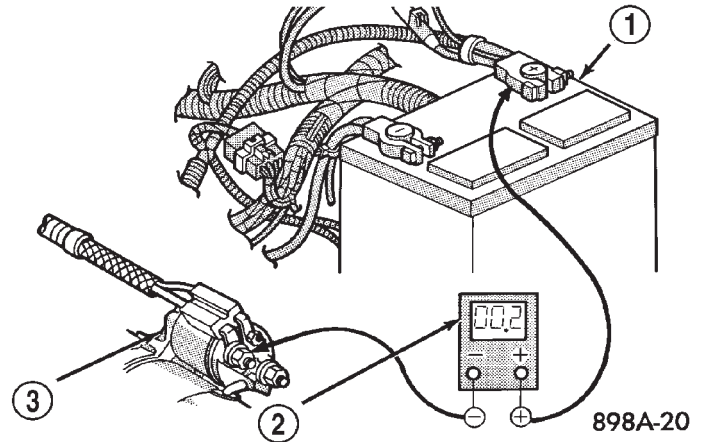

Fig. 4 Test Positive Battery Cable
(3) Connect voltmeter to measure between battery positive terminal post and starter solenoid battery terminal stud (Fig. 4). Rotate and hold ignition switch in Start position. Observe voltmeter. If reading is above 0.2 volt, clean and tighten battery cable connection at solenoid. Repeat test. If reading is still above 0.2 volt, replace faulty positive battery cable. **Note: Certain diesel equipped models use dual batteries. If equipped with dual battery system, this procedure must be performed on driver side battery only.**